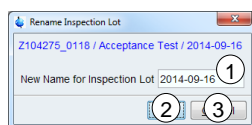

Figure 5-54: Navigation context menu – Rename Inspection Lot dialog
Click **Rename Inspection Lot** (3) in Inspection Lot context menu to rename the selected Inspection Lot. A subsequent dialog (Figure 5-54) opens up.
Enter an individual **New Name for Inspection Lot** (Figure 5-54 (1)) (see chapter 2.2, **permitted characters**). The old name is suggested as a default (see Figure 5-54). Click **OK** (Figure 5-54 (2)) to finish renaming the Inspection Lot. Click **Cancel** (Figure 5-54 (3)) to abort renaming the Inspection Lot.